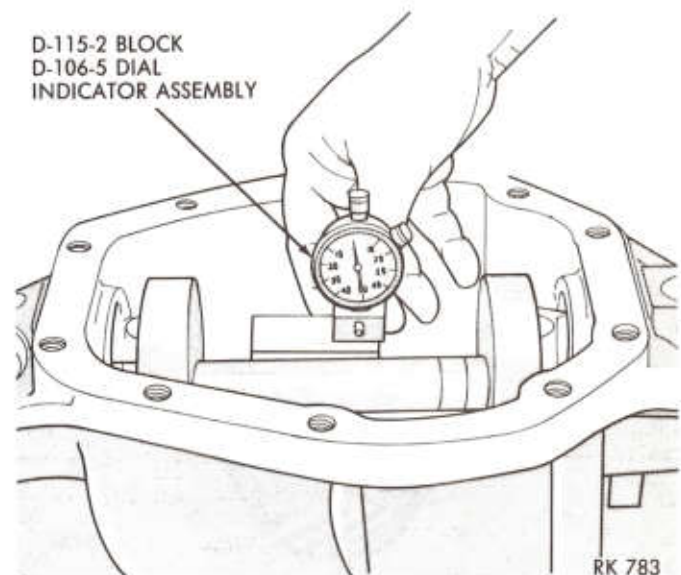

Fig. 18—Checking Pinion Depth
block and D-106-5 dial indicator, on small step of pinion height block. Making sure that the gauge assembly is flat on the pinion height block, set the dial indicator to read "0" (Fig. 18).
(5) Recheck pinion depth at this time by placing arbor and discs into cross bore of the carrier. Place pinion height block on face of pinion. Set dial indicator on height block. Set dial indicator at "0". Slide gauge assembly across or over arbor. See Fig. 18.